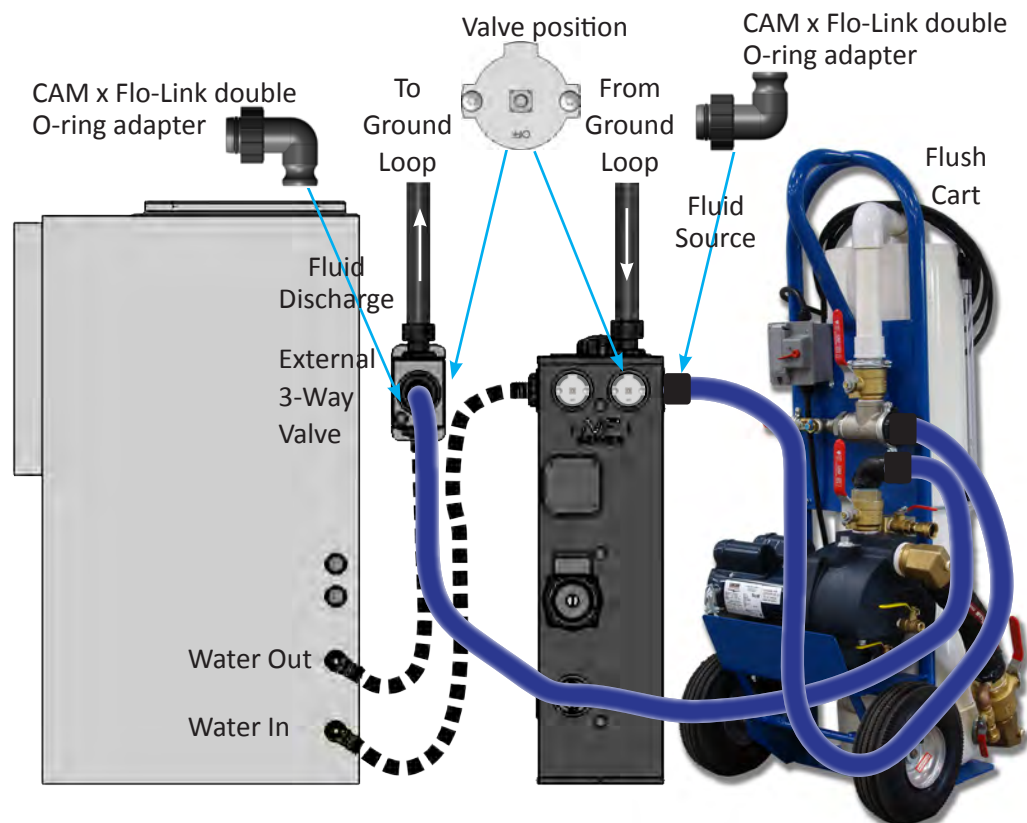

Figure 10: Connecting flush cart for ground loop flushing
3. Attach the flush cart to the 3-way valves using Flo-Link double O-ring X 1" CAM fittings (Figure 10). Applying a small amount of lubrication to the O-rings to allow the fittings to be installed and removed with little force. The plastic nuts should be hand-tightened only.
4. Flush/purge the ground loop using a high quality flush cart (see Figure 10). The external 3-way valve (included with NP Plus) allows the ground loop to be flushed independently of the heat pump. Geo-Flo provides detailed instructions on operating the flush cart manufactured by Geo-Flo.